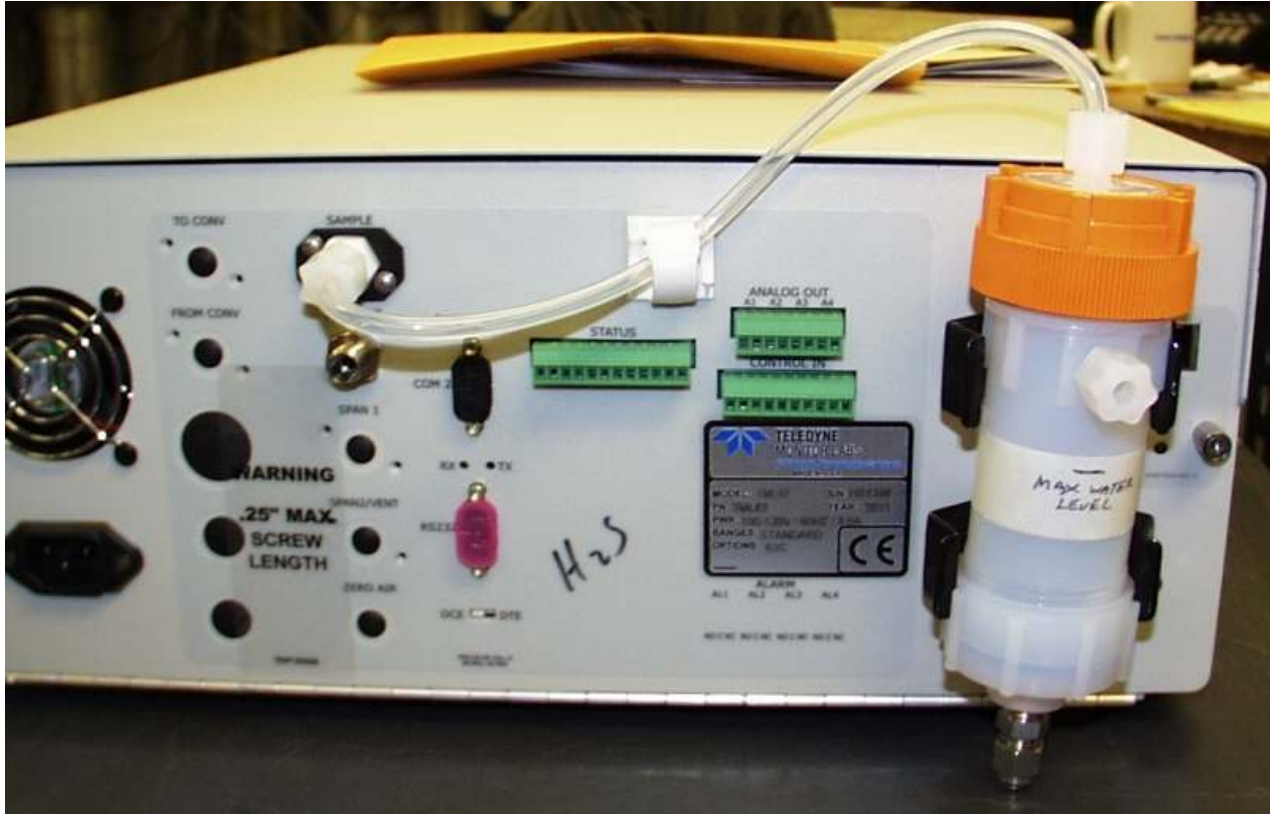

Figure 1 – Sample Hydrator for H₂S Installed
(See Figure 1)
3. Place the water canister on the back of the unit (See Figure 1). Ensure that the water level is at or below the maximum fill line. Failure to do this can cause flooding in the unit.
4. Plumb the top of the canister to the Sample Inlet fitting (See Figure 1) and ensure that all fittings are tight. The fitting on the front of the canister will now become your sample inlet.